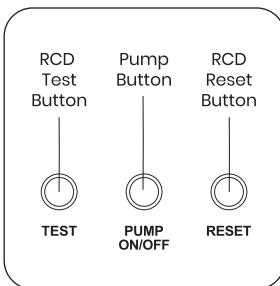

Fig. 11
3. Turn on the pump by pump button located at the heater (**Fig. 11**), the yellow **PUMP** indicator will light up.
RCD Test and Reset Buttons (Fig.11)